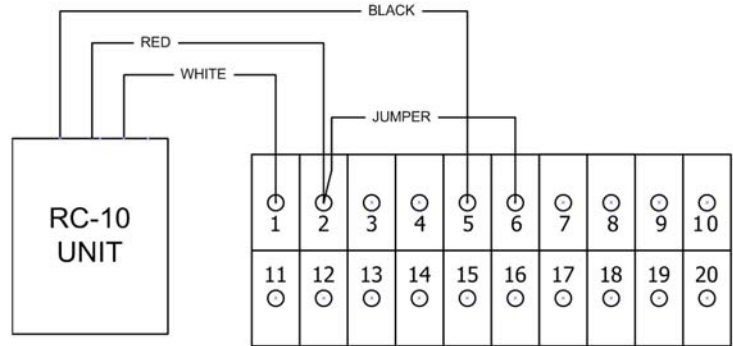

Figure 5. Contacts Connections
1. Install a jumper wire between terminals #6 and terminal #2 (see Figure 5).